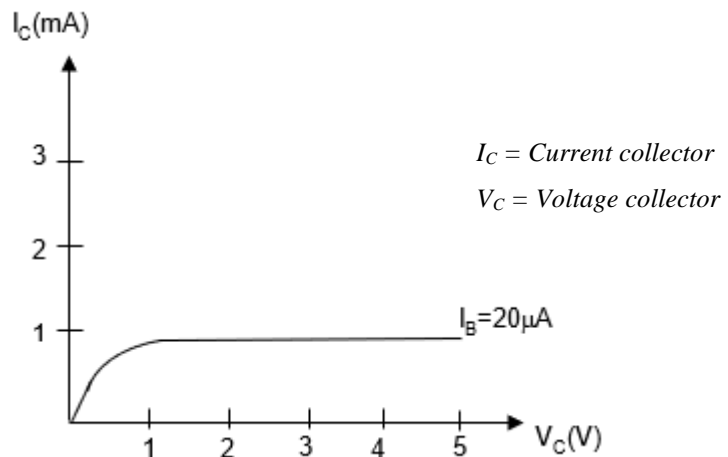

Figure 3.12: The I-V Curve
- Figure 3.12 illustrates the condition of a transistor during the changes of current and voltage.